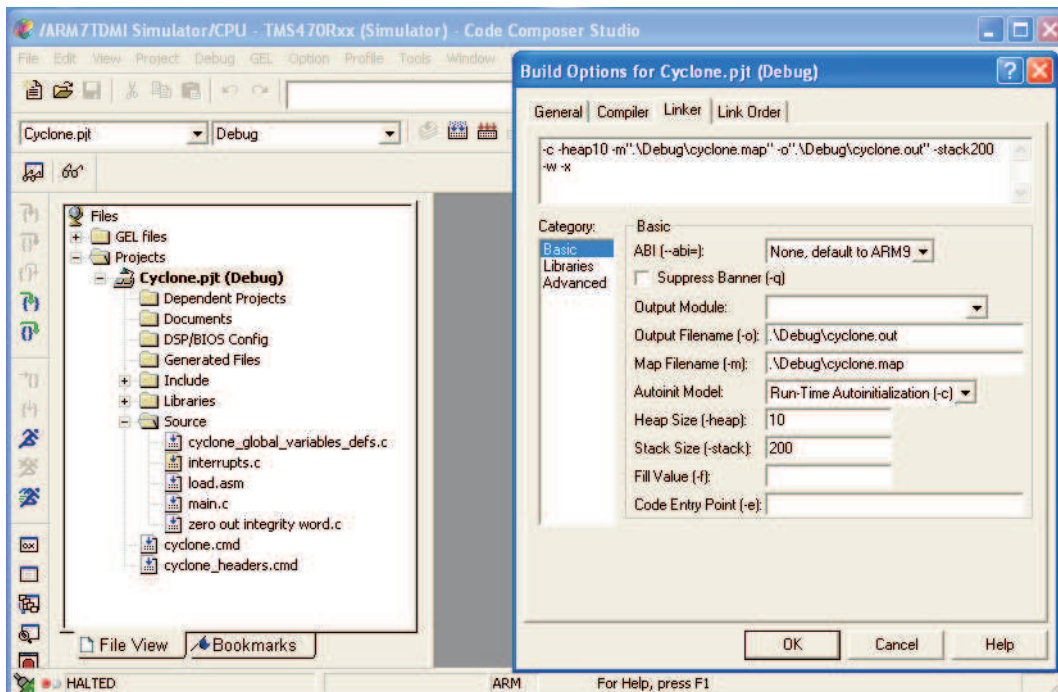

Figure 26. Open a Project File *Cyclone.pjt* (build options and linker tab)
4. From CCS project window, Right click on **Cyclone.pjt (Debug)** and then select **Build Options...** the window as shown in Figure 26 appears when the **Linker** tab is selected.
5. Figure 26 shows the project **Build Options** have been selected to create the file **Cyclone.out** from CCS.